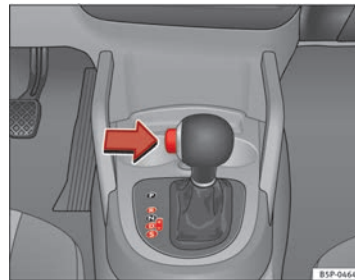

Fig. 144 Driving
- Press the button on the selector lever knob (on the left ⇒ Fig. 144).